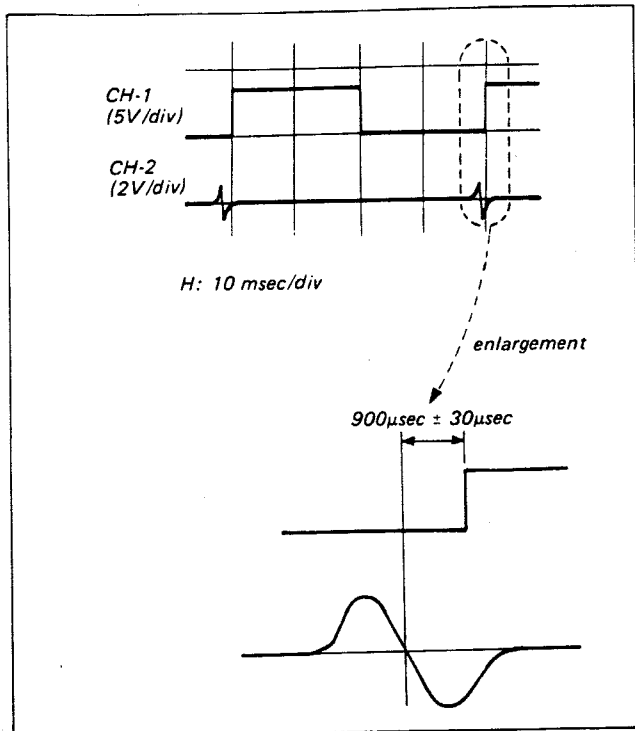
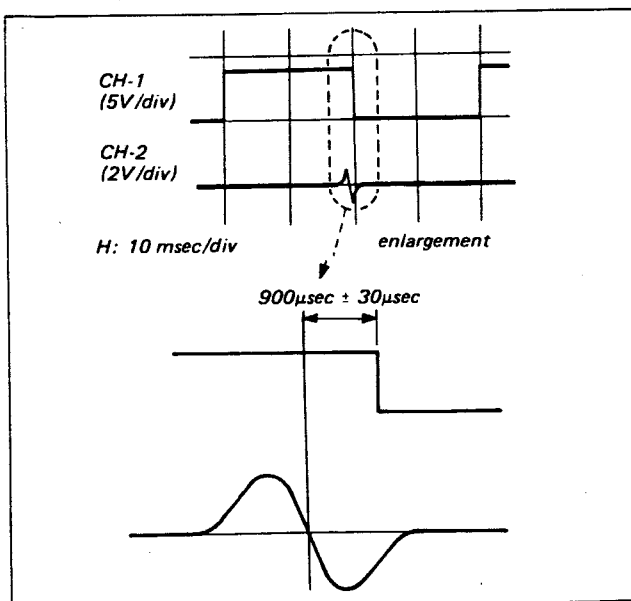

Fig. 5-7. RF switching position adjustment (1)
Fig. 5-8. RF switching position adjustment (2)
- Adjust to $900 \mu\text{sec} \pm 30 \mu\text{sec}$ with RV304 (See Fig. 5-7.)
- Change connection of CH-2 only to Pin ③② of IC301.
- Adjust to $900 \mu\text{sec} \pm 30 \mu\text{sec}$ with RV305 (See Fig. 5-8.)